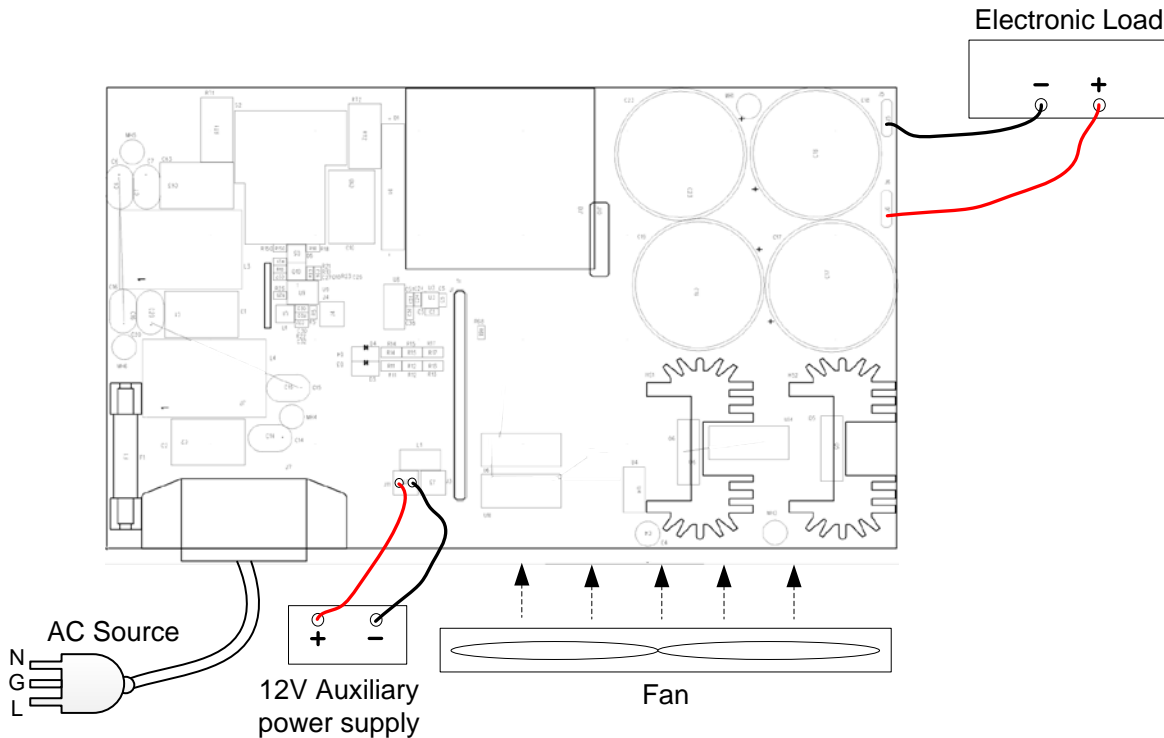

Figure 4.1. Recommended test set up
Figure 4.1 shows the basic test setup Gan Systems used to evaluate the GS66516T-based BTPPFC.
The AC input source shall be capable of supplying between 176 V_{ac} and 264 V_{ac} with a line frequency 50-60Hz. A 12-V power supply is needed to supply all the low voltage auxiliary power. The programmable electronic load can be set to either constant current or constant resistance mode. A fan should be used to maintain component temperatures within safe operating ranges at all times during operation. Position the fan so as to blow the heatsink as shown in Figure 4.1.
- (1) Connect the equipment as shown in Figure 4.1.
- (2) Turn on the electronic load.
- (3) Turn on the fan.
- (4) Turn on the 12-V power supply.
- (5) Turn on the AC power input (176 V_{ac} to 264 V_{ac}).